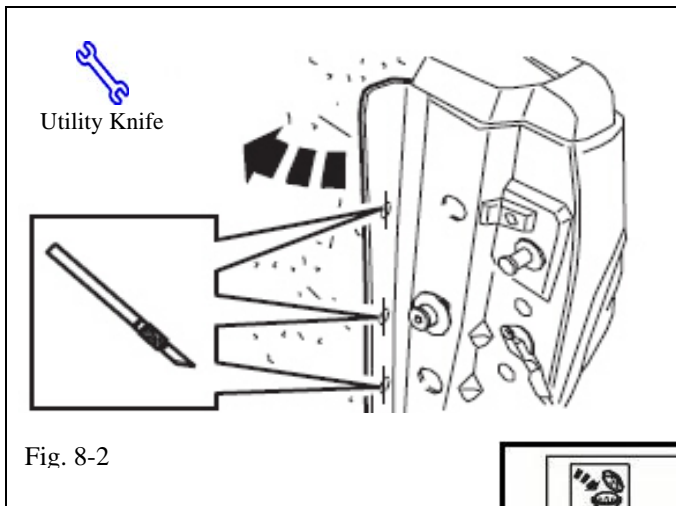

Fig. 8-2
- NOTE: If using the BedRug in conjunction with a bed extender, cut the slits (located on back of part) of the D-pillar area to allow access to attachment holes.** (Fig 8-2)